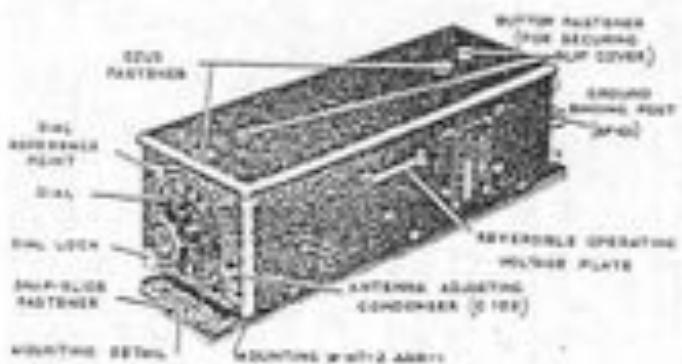

Figure 2—Radio Receiver \*R-1/ARR-1, Front View
figures 2 and 3. On the front are a tuning dial, a dial lock, and an antenna-trimming adjustment marked ANT. TRIM. The rear panel has a grounding post and five receptacles.
b. MOUNTING \*MT-1/ARR-1.—The mounting, shown in figure 1, consists of an aluminum plate with two mounting details and four countersunk holes. Figures 2 and 3 show it attached to the receiver. Some mountings do not contain the nomenclature \*MT-1/ARR-1.